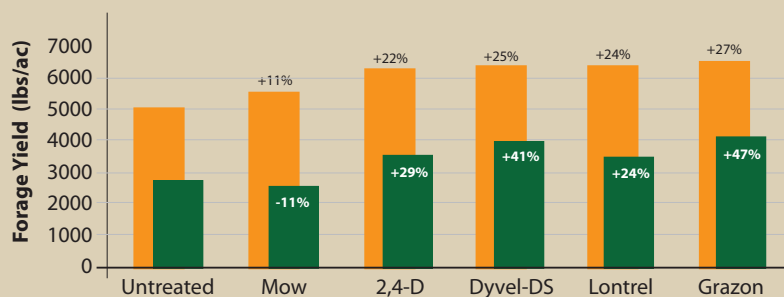

Figure 3: Comparison of forage yields 1 year after treatment.
3. Greater CT control was partly due to increases in forage biomass of up to 27% following suppression of the competing weed (See Fig. 3).